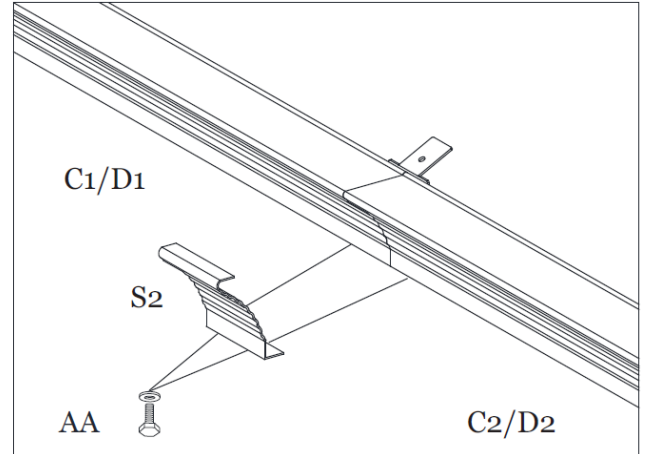

Figure 5-2
Step 5B: Attach Center Lintel Cover (S2) to Long Lintels (D1 and D2) and Short Lintels (C1 and C2). **Tighten all Bolts.** See Figure 5-2.